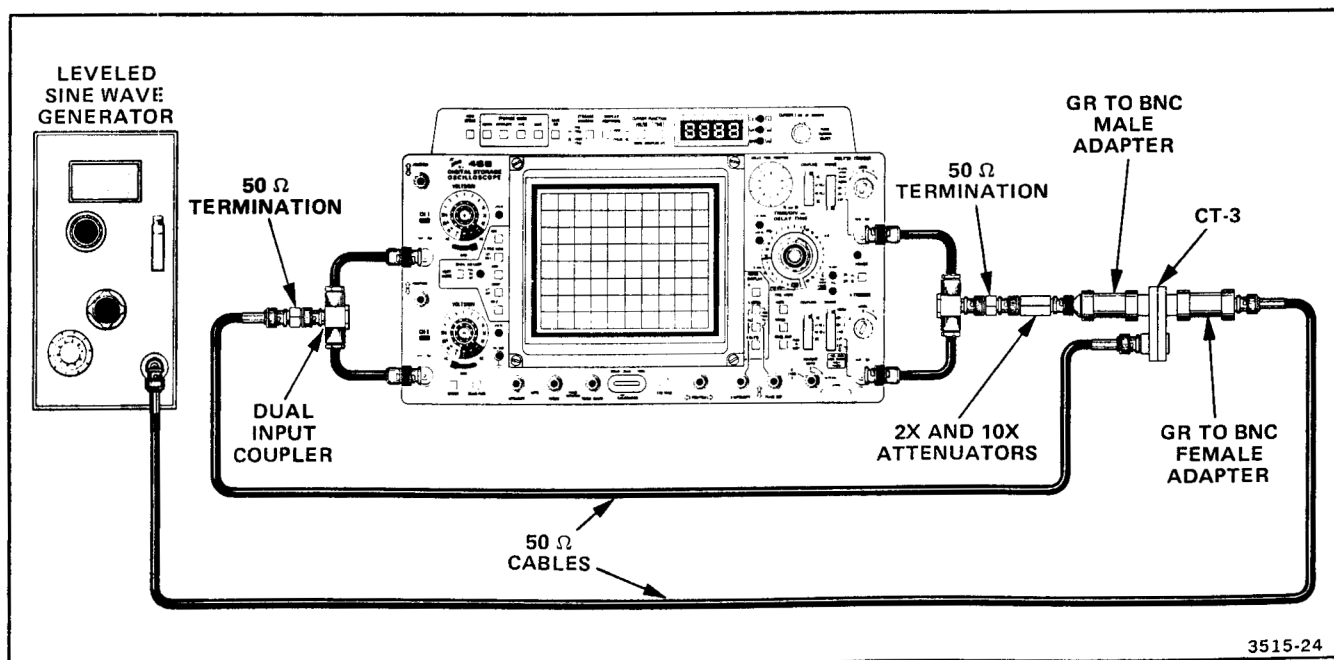

Figure 4-1. Test setup for A and B triggering checks.
a. Connect the test equipment to the 468 as illustrated in Figure 4-1.